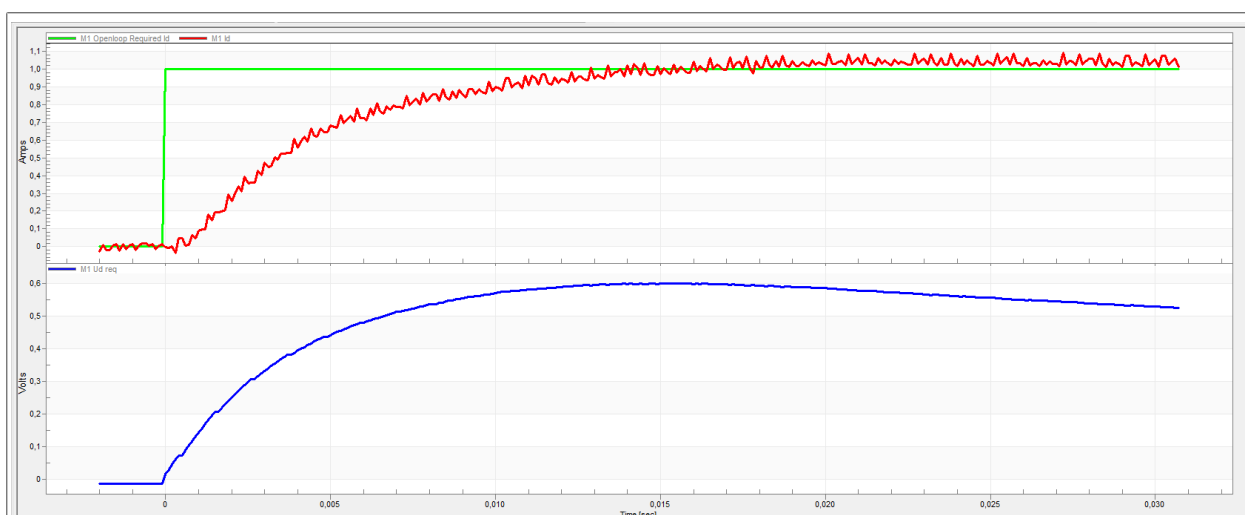

Figure 24. Slow step response of the Id current controller
- The loop bandwidth is low (100 Hz) and the settling time of the Id current is long (Figure 24).